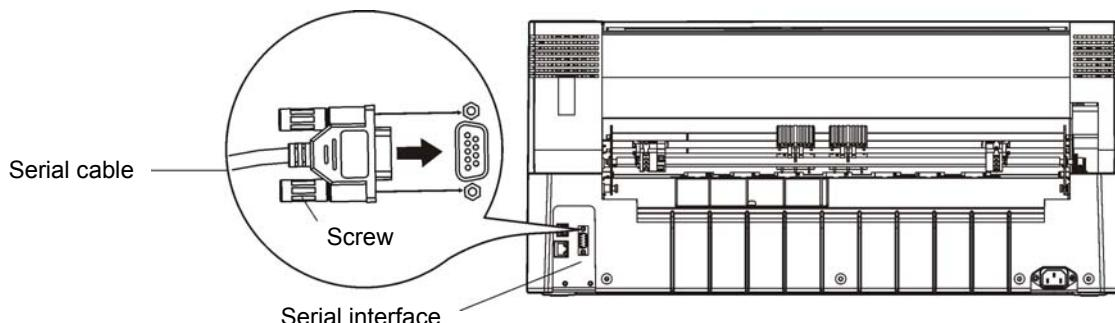
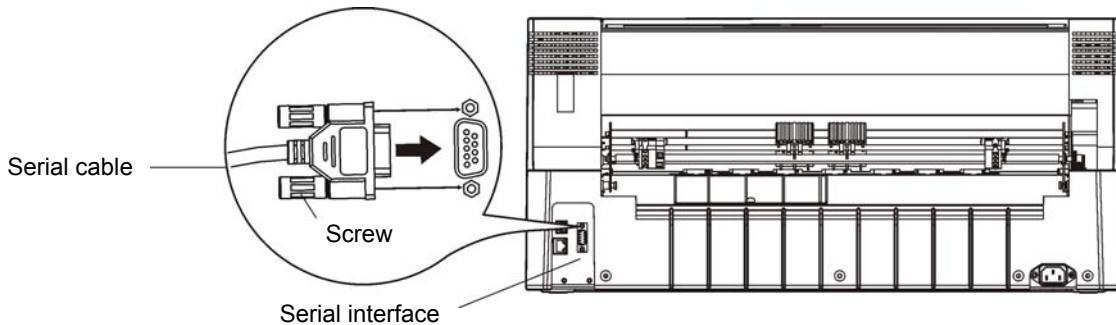

Figure 2-17 Connect to the serial interface (9-pin)
Figure 2-18 Connect to the serial interface (25 -pin)
1. Turn off both the computer and the printer. Plug the serial cable connector securely into the printer's serial interface. Then tighten the screws on both sides of the connector. As shown in Figure 2-17 or Figure 2-18.